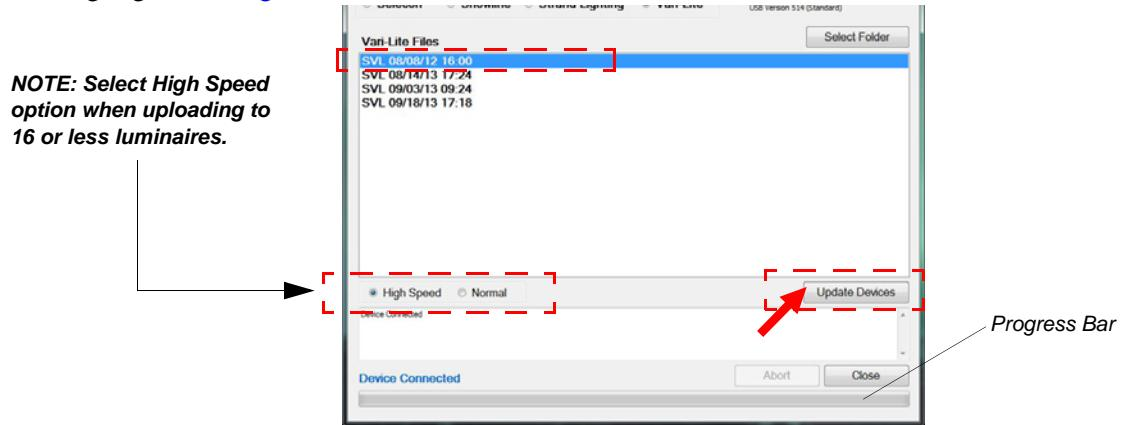

Figure 3-11: bin File Selection
Step 7. Click on bin file for luminaire to be updated (for example, SVL_080812.bin) as highlighted in Figure 3-11.
Step 8. As indicated in Figure 3-11, click on **Update Devices** to start upload.